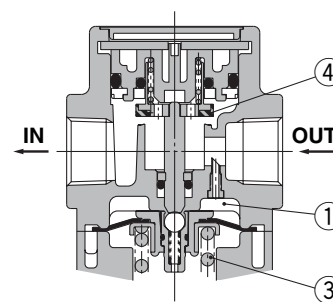

Figure 2 Back flow
When the inlet pressure is shut off and released, the check valve ② opens and the pressure in the diaphragm chamber ① is released into the inlet side (Figure 2).
This lowers the pressure in the diaphragm chamber ① and the force generated by the pressure regulator spring ③ lifts the diaphragm. Valve ④ opens through the stem, and the outlet pressure is released to the inlet side (Figure 2).